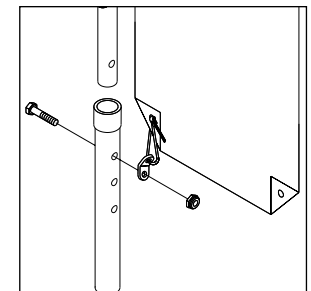

Figure 10
1. Height Adjustment (Fig. 10)